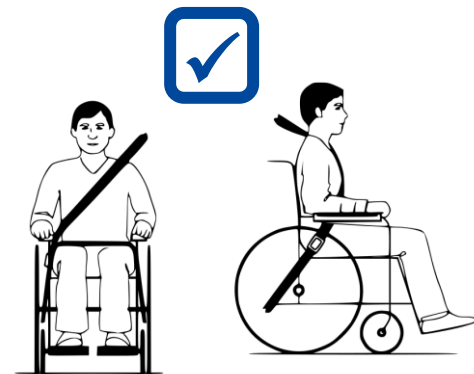

Figure 4 *Proper belt-restraint fit*
10. Make sure that the shoulder-belt restraints fit over the shoulders, see figure 4.